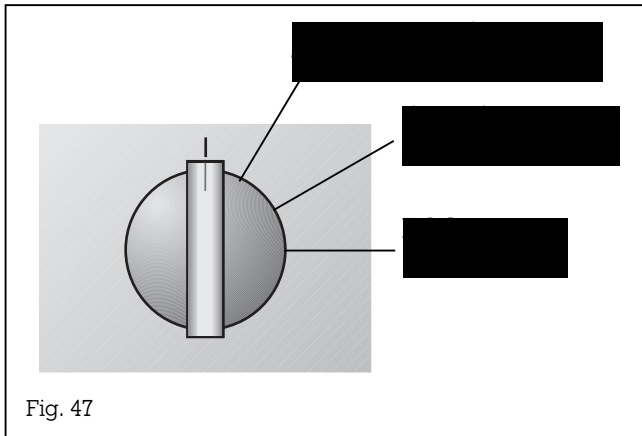

Fig. 47
- By turning the “Modes” control knob, you can now choose the various functions (Fig. 47):